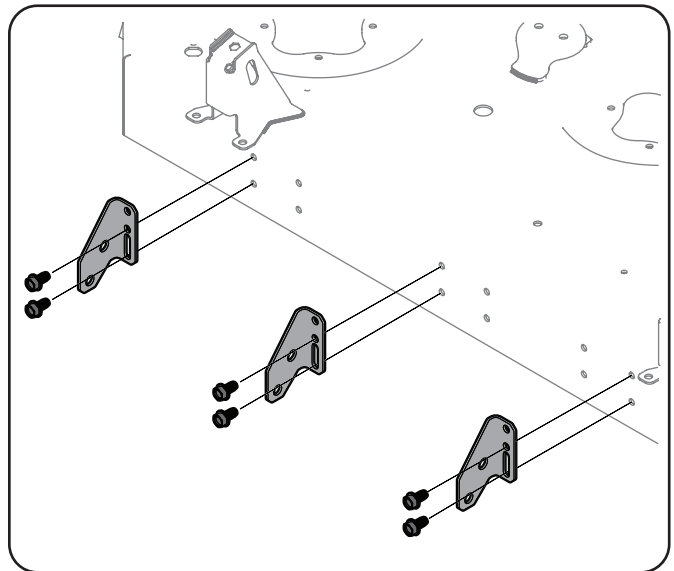

Figure 1-2
1. Install three Roller Support Brackets (#1) to the locations shown in Figure 1-2 on the Tractors deck with two $\frac{3}{8}$ Self-Tapping Screws (#2) per bracket. See Figure 1-2.